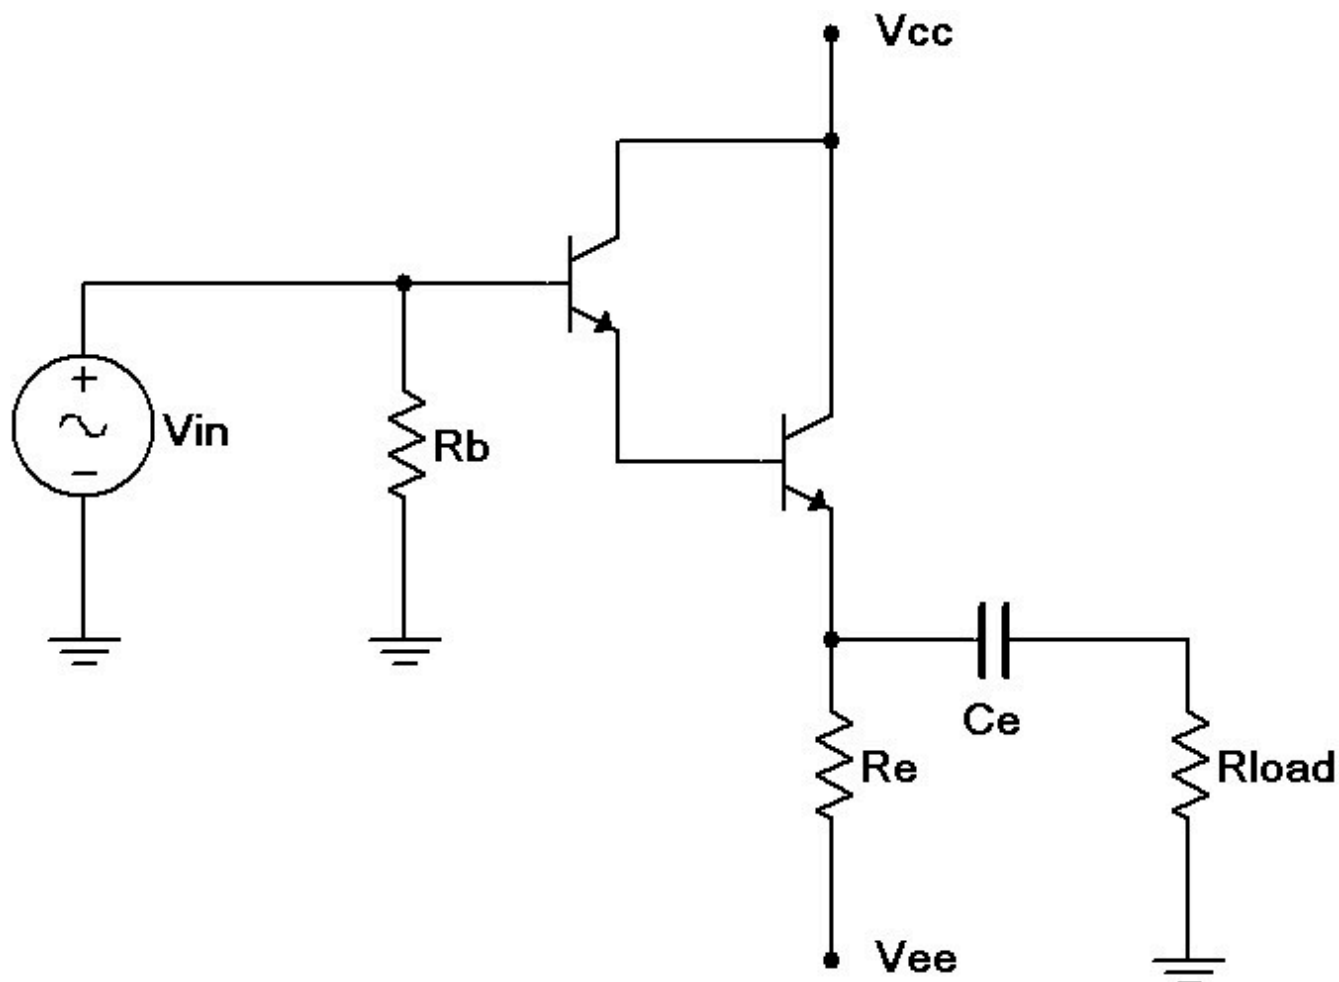

Figure 1
1. Consider the circuit of Figure 1 using  $V_{cc} = 5$  volts,  $V_{ee} = -12$  volts,  $R_b = 47$  k $\Omega$ ,  $R_e = 1$  k $\Omega$ ,  $R_{load} = 100$   $\Omega$  and  $C_e = 470$   $\mu$ F. Determine the theoretical  $I_{CQ}$ ,  $V_{CEQ}$ ,  $v_{CE}(\text{cutoff})$  and  $i_{C}(\text{sat})$ , and record these in Table 1. It is helpful to plot the AC load line for step three. Note that the collector-emitter saturation voltage for a Darlington pair cannot be assumed to be 0 volts, and may be closer to one volt, thus reducing the expecting voltage swing toward the saturation point. It is also worth noting that this amplifier has a direct coupled input (i.e., no input capacitor is required due to the very small DC base voltage).
2. Build the circuit of Figure 1 using  $V_{cc} = 5$  volts,  $V_{ee} = -12$  volts,  $R_b = 47$  k $\Omega$ ,  $R_e = 1$  k $\Omega$ ,  $R_{load} = 100$   $\Omega$  and  $C_e = 470$   $\mu$ F. Disconnect the signal source and measure the DC transistor voltages to ensure the circuit is biased correctly. Record  $V_{CEQ}$  and  $I_{CQ}$  in Table 1 (Experimental).